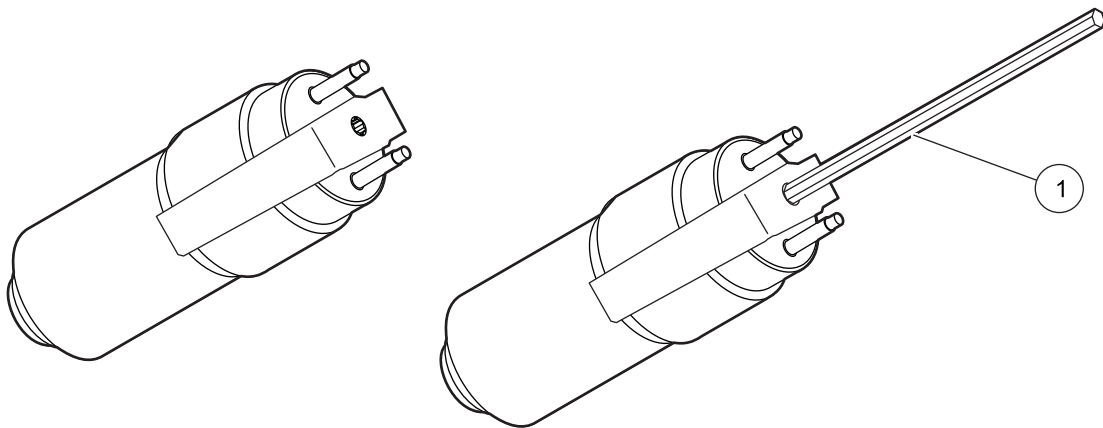

Figure 12 Loosening of the set screw
5. Use a 1.27 mm or 1.5 mm hex key (Allen) wrench to loosen the set screw on the bracket on top of the pump (refer to Figure 12).